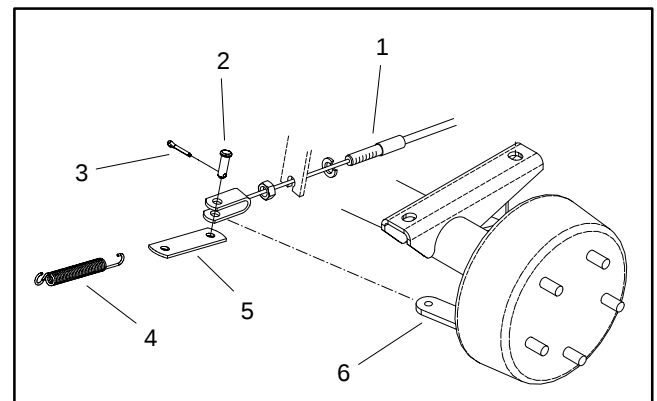

Figure 20
12. Remove the cotter pin and clevis pin to disconnect the brake cable from brake actuating lever on each brake (Fig. 20). Loosen jam nut to remove brake cable from each end of axle bracket.
13. Put a jack or blocking under front axle to prevent it from falling. Remove cap screws, flat washers and lock nuts that secure axle mounting pads to frame. Retrieve and note location of axle shims (item 19).
3. Connect the brake cables to the brake actuating levers on each brake (Fig. 20). Secure brake cables to axle brackets with jam nuts.